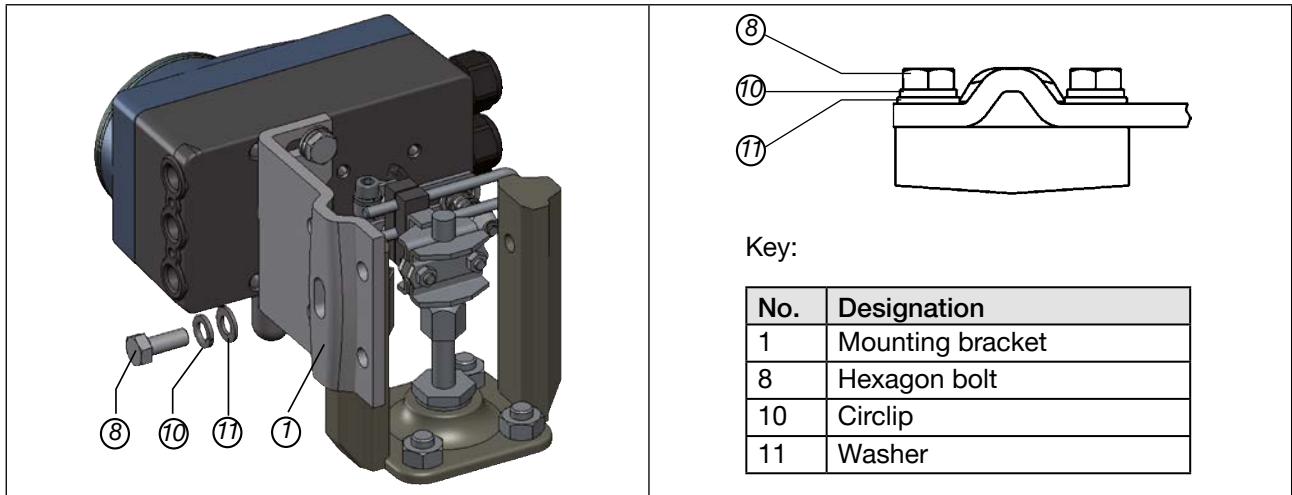

Figure 16: Attach positioner with mounting bracket; for actuators with cast frame
→ Attach mounting bracket to the cast frame with one or more hexagon bolts (8), washers (11) and circlips (10) (see “Figure 16”).